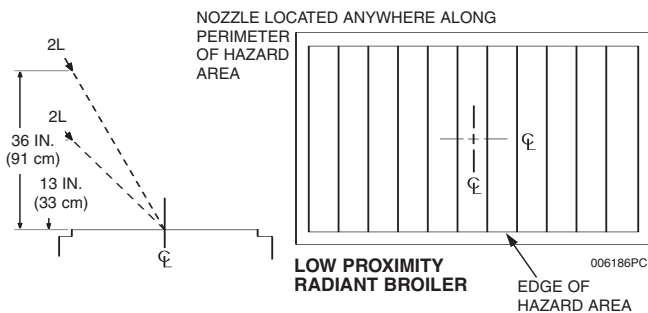

Figure 3-11a.
The 2L nozzle, Part No. 551027, is used for low proximity radiant char-broiler protection. This nozzle is a two (2) flow nozzle. The nozzle must be located **anywhere on the perimeter** of the hazard surface, 13 in. to 36 in. (33 to 91 cm) above the cooking surface of the appliance and aimed at the center of the broiler surface. See **Figure 3-11a**.